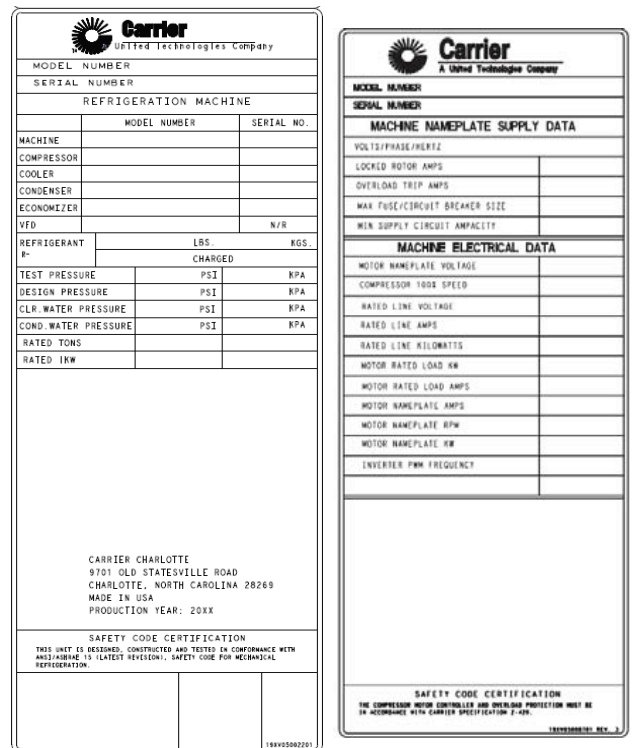

Fig. 28 — Machine Identification Nameplate and VFD Electrical Nameplate
- Chiller identification nameplate — Located on the left side of the control panel. (See Fig. 28.)